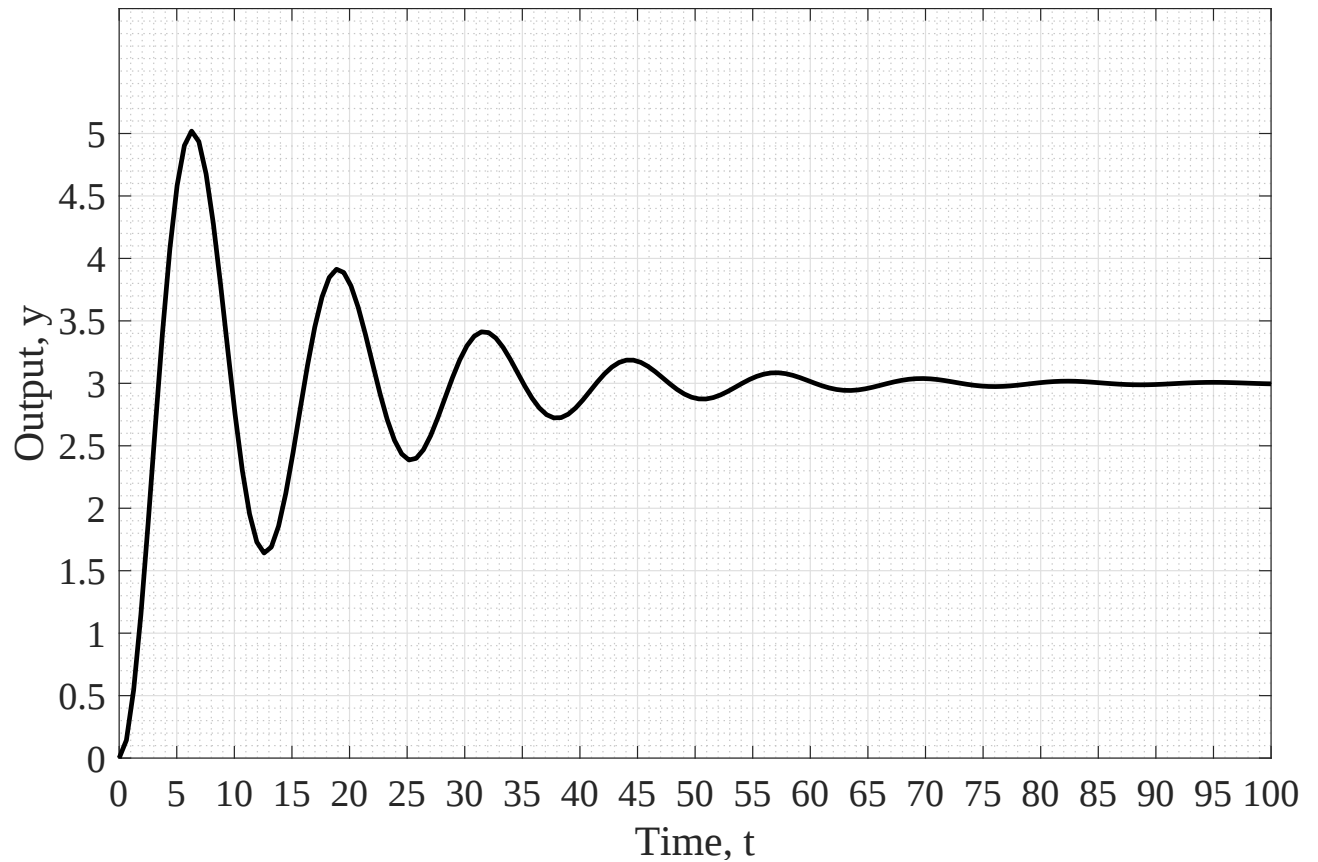

Figure 6: Step response for $g(s)$
Given the plot in Fig. 6 for a second order transfer function and the formulas in Eq. 4:
- Show a, b in Fig.6.